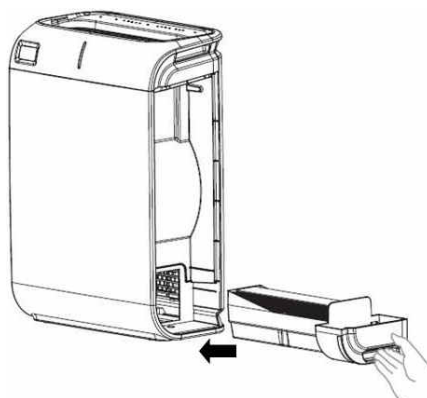

Fig 12
10. Put back the humidify filter into the water channel, and insert the water channel horizontally into the appliance properly. (Fig12)